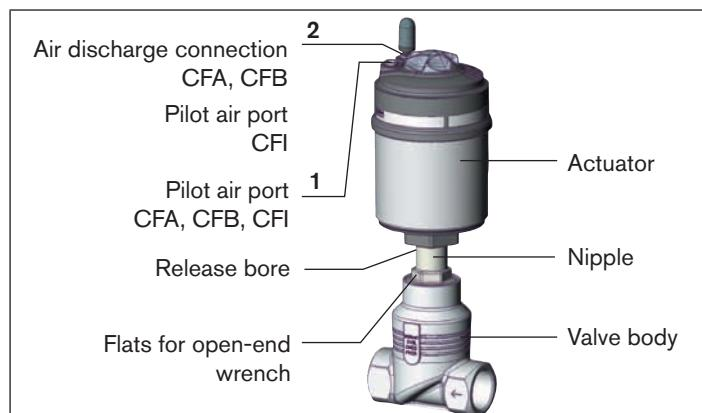

Fig. 25: Designation parts
- **Control function A and I** Pressurize pilot air port 1 with 6 – 8 bar. (see "Fig. 25: Designation parts").
- **Control function B** Pressurize pilot air port 2 with 6 – 8 bar. (see "Fig. 25: Designation parts").